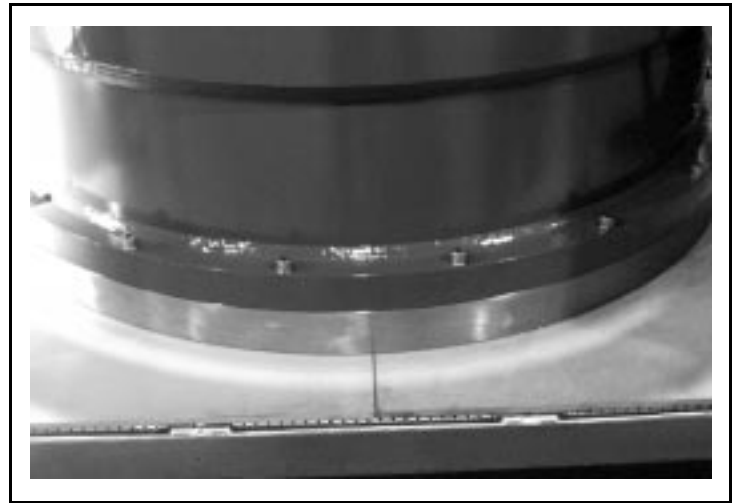
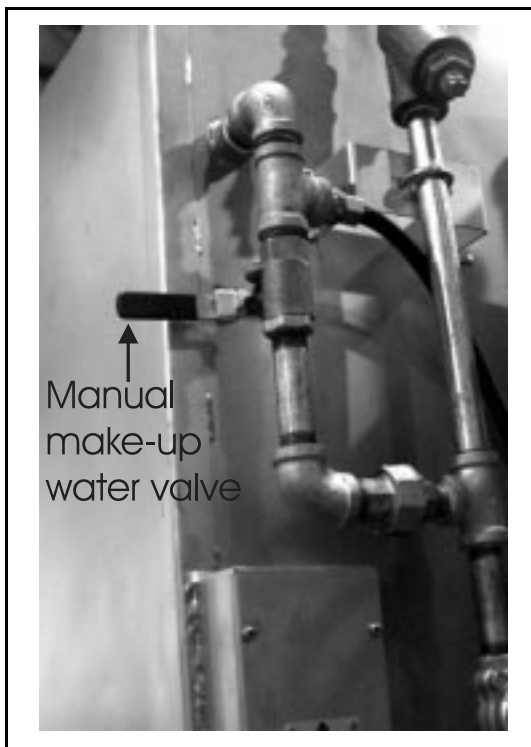
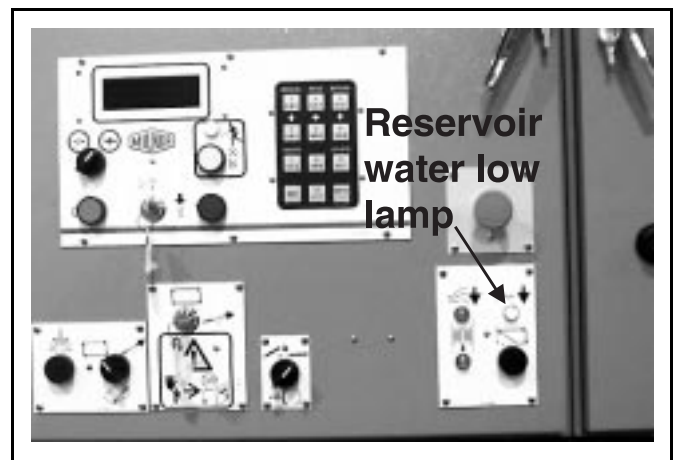

FIGURE 4 (MSSMD445AE)
FIGURE 6 (MSSMD445AE)
FIGURE 7 (MSSMD445AE)
3. Proceed with cleanout procedure as explained in Mode 12 (FIGURES 4 and 5). After the reservoir water is exhausted, the *Reservoir Water LOW* lamp illuminates (FIGURE 7). Turn on the *Manual make-up water* valve (FIGURE 6) to refill the press reservoir tank.